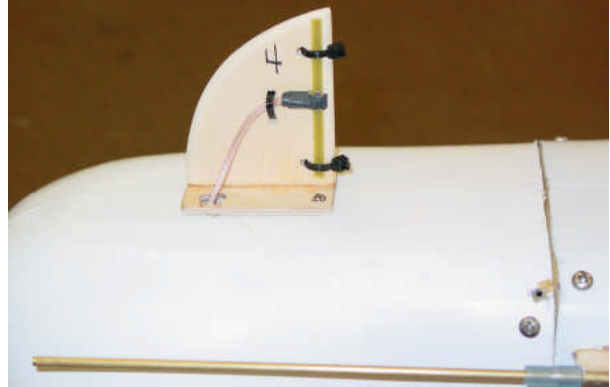

Figure 18. Video transmitter antenna & channel number
- The aircraft's transmitter channel is written on the aircraft's antenna mount (Figure 18).